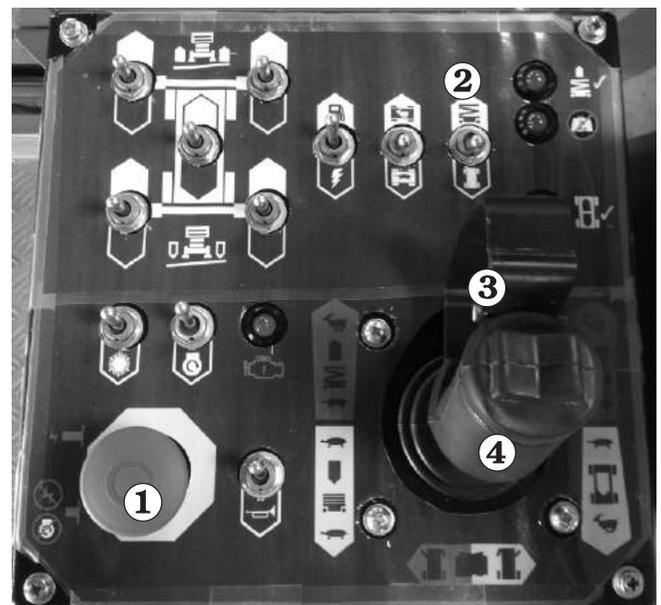

Figure 9.3
2. Set the **Selector** switch ② (see Figure 9.3) to the platform function (up).
3. Squeeze the **Safety Control** ③ and push the **Joystick Controller** ④ (see Figure 9.3) forward. The platform should lower. If it does not lower, call for help from someone on the ground.